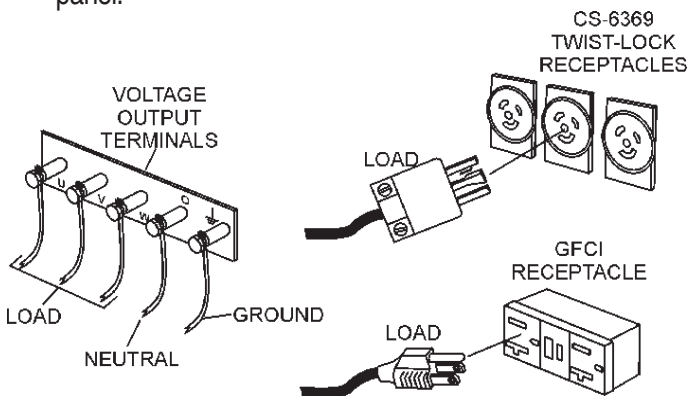

Figure 39. Load Connections
2. Connect the load to the **Output Terminal Lugs** or **auxiliary receptacles** as shown in Figure 39. These load connection points can be found on the output terminal panel.